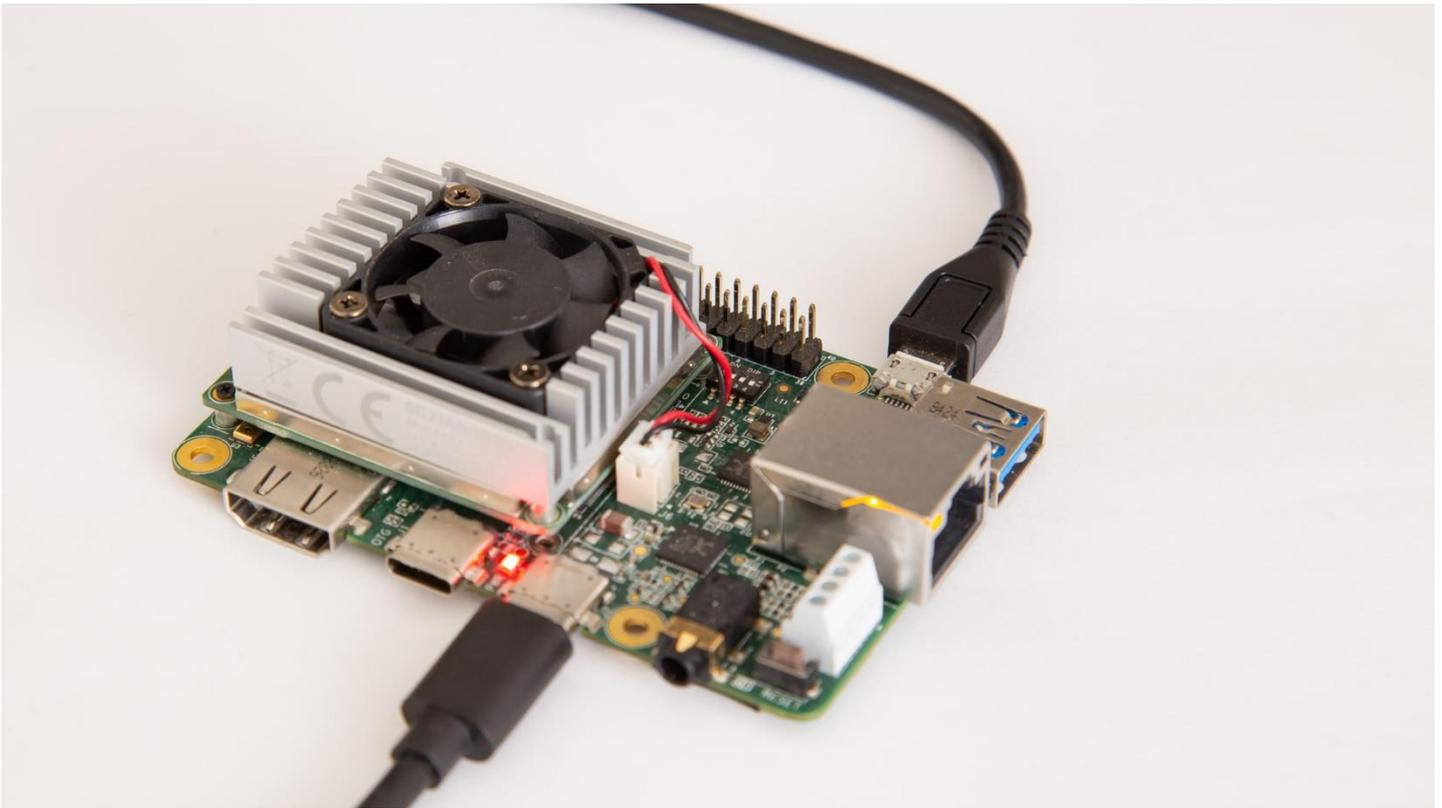

Figure 1. A micro-B USB cable connected to the Dev Board's serial console port
2. Connect your computer to the board with the micro-B USB cable, and connect the board to power, as shown in figure 1.
1. Connect your computer to the board with the micro-B USB cable, and connect the board to power, as shown in figure 1.